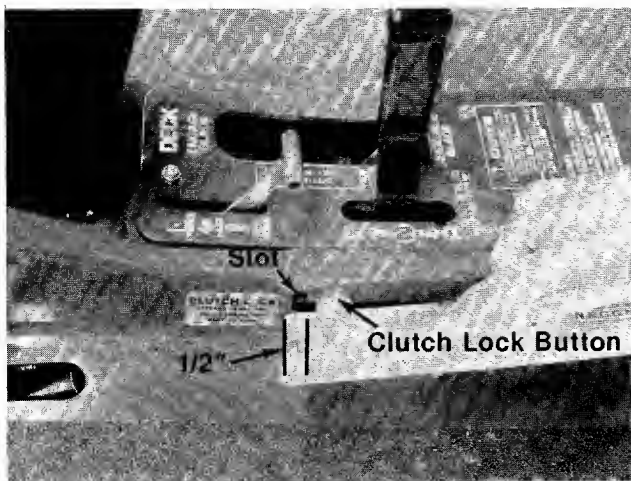

FIGURE 17. Top View
1. With the engine off, release the clutch lock. See figure 17.
2. There should be $\frac{1}{2}$ " of space between the end of slot and clutch lock button. See figure 17.